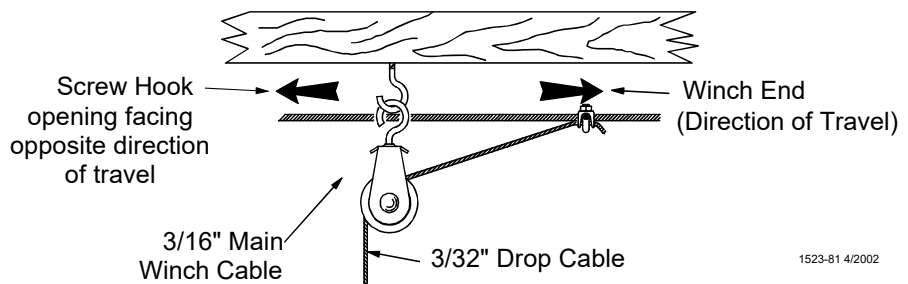

Figure 13. Screw Hook Installation
See Figure 13.
- Thread the end of the 3/32" or 1/8" cable through the pulley toward the winch. Clamp this end to the 3/16" winch cable about 6" [150 mm] from the last pulley, using a 3/16" cable clamp. See applicable figure; **Figure 13 or 17**.